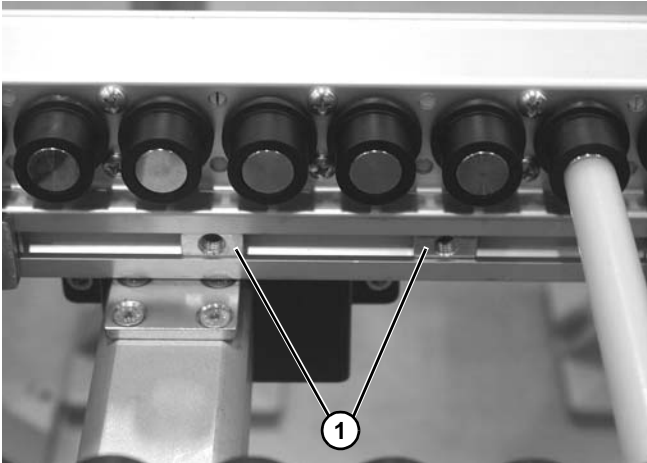

Figure 5
1. Install spring nuts (**Figure 5, item 1**) into T-slot.